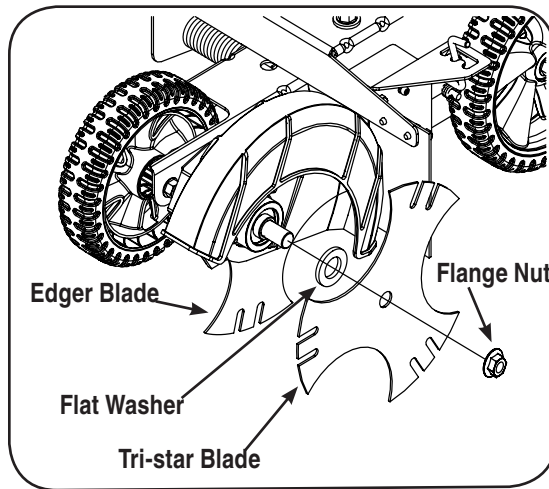

Figure 10
5. Install the Tri-star edger blade (part no. 781-0748), and the flat washer (part no. 736-04088). See Figure 10.